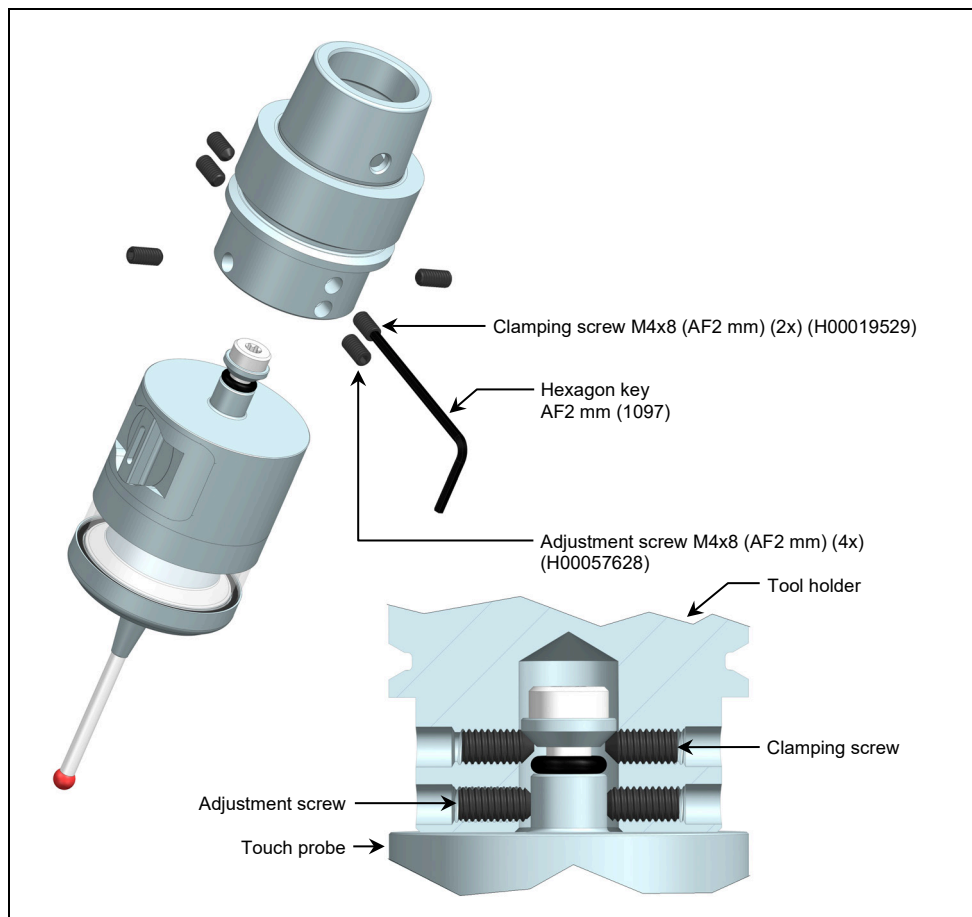

Fig. 6 Mounting/dismounting the tool holder
- 1.1 Loosen all screws, clamping screws and adjustment screws according to Fig. 6.